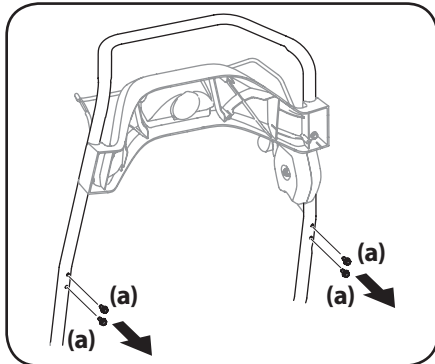

Figure 2-11
1. Remove the hex washer screws (a) from the back of the handle (two on each side). See Figure 2-11.